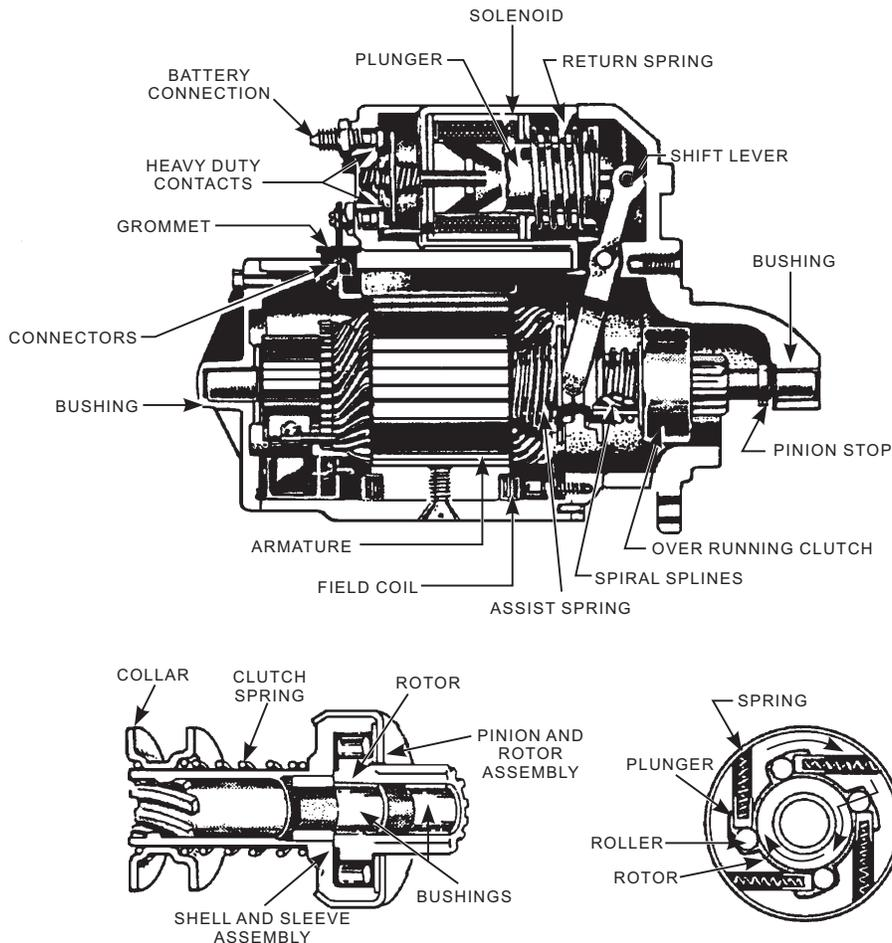

Figure 6-68.—Solenoid shift starter and overrunning clutch drive.
**OVERRUNNING CLUTCH.**—The overrunning clutch drive consists of a shaft collar, a clutch spring, a shell and sleeve assembly, a pinion, a clutch rotor, and a set of rollers (fig. 6-68). The shell and sleeve assembly